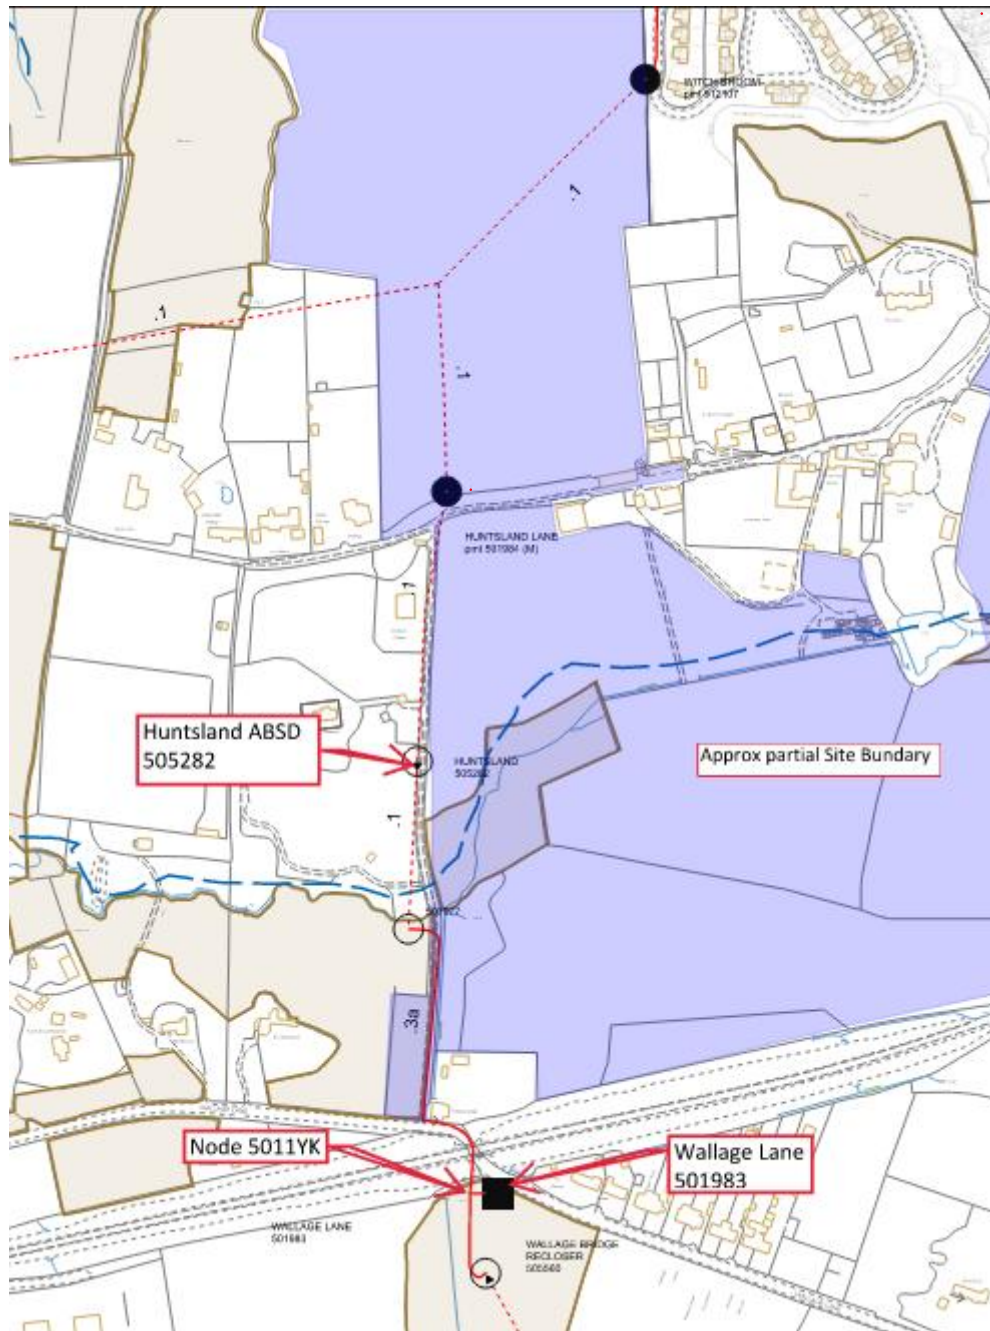

**Figure 2: Existing UK Power Networks overhead HV lines**
4.2.1 UK Power Networks records show there are LV and HV networks within the development area (Figures 2 and 3). The information provided in the maps is for guidance only, the actual positions of the apparatus should be confirmed onsite and the red line boundary checked to understand if the lines run within the development area.
4.2.2 UKPN has overhead HV cables installed on pylons that are shown to be routed towards the centre of the development before distributing both west towards the adjacent properties and northeast towards the Woods View development (Figure 2).